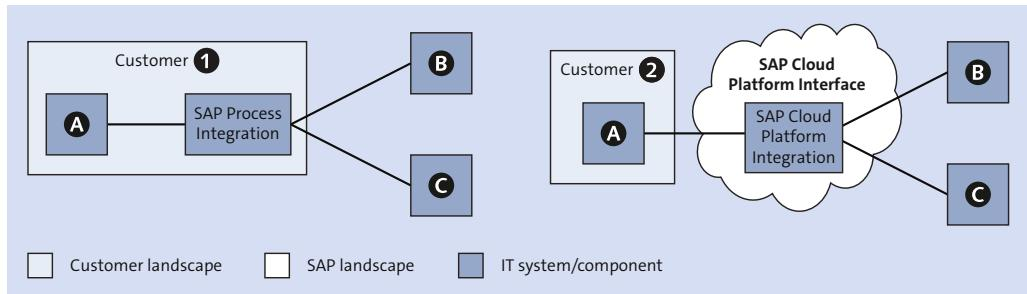

Figure 1.4 General Use Case and Component Setup for SAP Process Integration (Left) and SAP Cloud Platform Integration (Right)
Figure 1.4 outlines the differences between a cloud-based integration solution and an on-premise integration solution by providing a high-level comparison of the general technical landscapes for SAP Process Integration and SAP Cloud Platform Integration. In the example, two customers run integration scenarios that involves message exchanges between three IT systems (**A**, **B**, and **C**), where system **A** is part of the customer's landscape. Systems **B** and **C** aren't further specified. On the left side of Figure 1.4, SAP Process Integration is installed in the landscape of customer **①**. This means that, at runtime, the message exchange among systems **A**, **B**, and **C** is performed by an integration bus hosted *within* the customer's landscape. On the right side of Figure 1.4, customer **②** is using SAP Cloud Platform Integration as an integration bus to facilitate message exchange among IT systems **A**, **B**, and **C**. Here SAP Cloud Platform Integration is *outside* the customer's landscape (i.e., in the cloud).